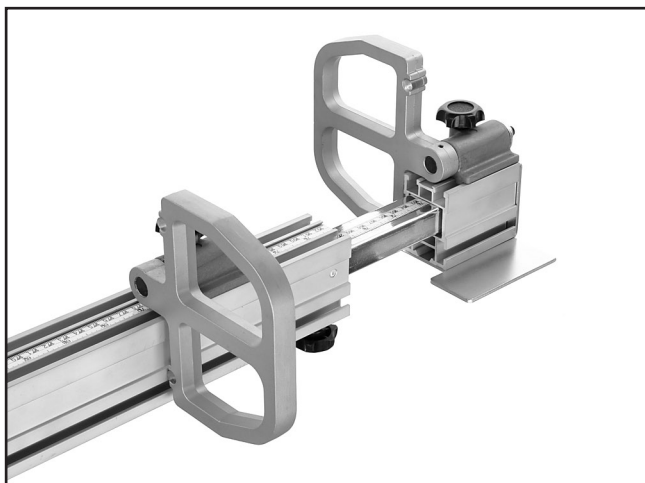

Figure 46. Stop block installation.
4. Unlock the fence extension and slide the flip stops into the fence as shown in **Figure 46**.